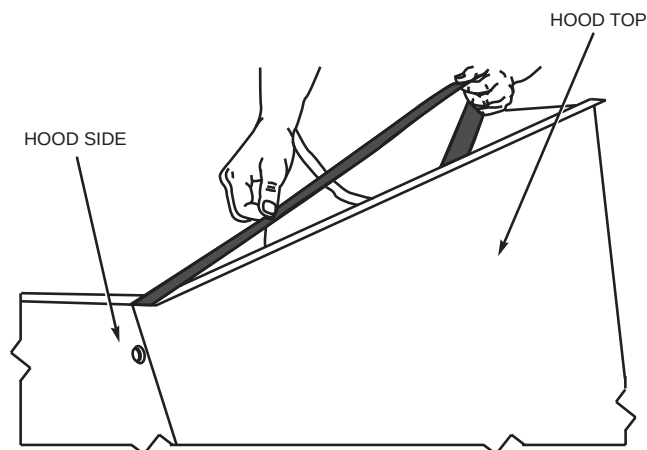

Fig. 19 — Adding Seal Strip to Hood Top Mounting Flange
5. Apply black seal strip (provided) to hood top mounting flange. Seal strip of hood top mounting flange must press tightly against seal strip of hood side mounting flanges. See Fig. 19.